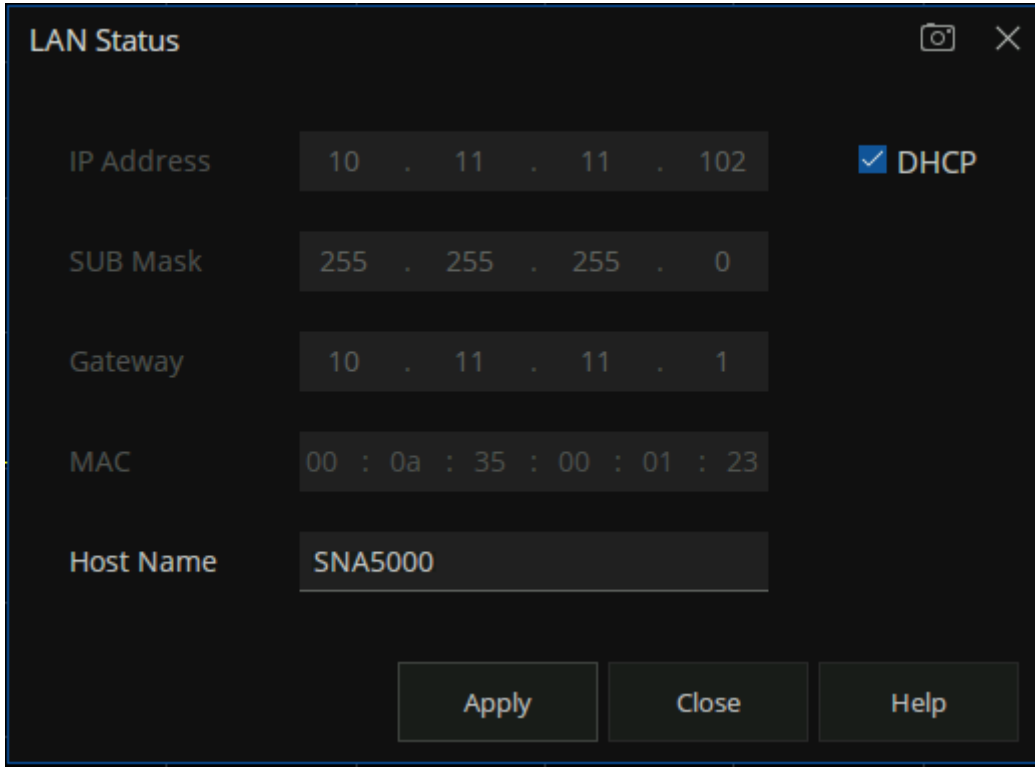

Figure 6-8 LAN status test box
4. Click on the button  -LAN status...A LAN status Test Box will be displayed, as shown in Figure 6-8